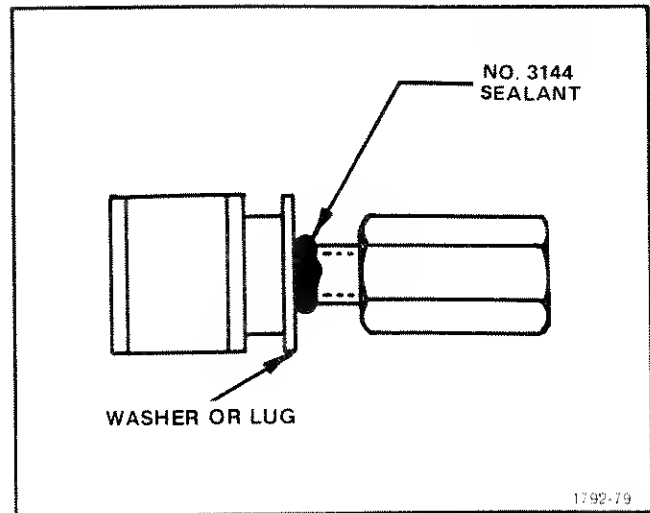

Fig. 5-26. Application of sealant to the 0-dB SET control bushing.
22. Install the VAR control and the 0-dB SET control (see Figs. 5-26 and 5-27)
1. Partially unscrew Hex spacer nut and form a bead of No. 3144 sealant around the bushing threads as shown in Fig. 5-26.